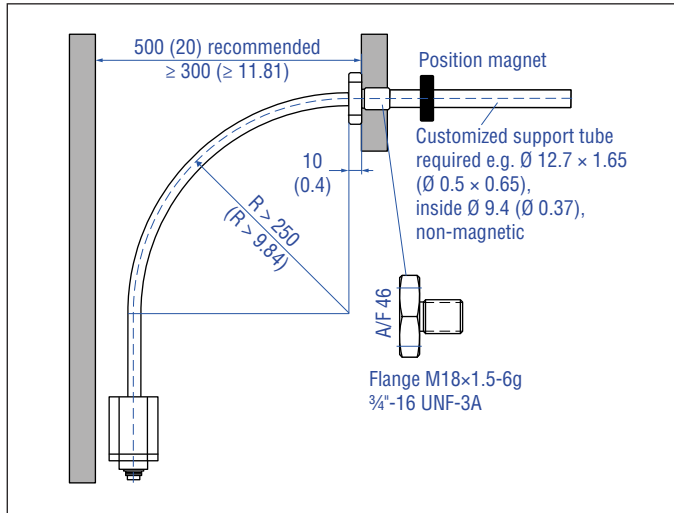

Fig. 19: Clearances for installation and handling
3. Note the minimum distance to a spatial limitation of 300 mm (11.81 in.), when mounting/dismounting the sensor. The recommended distance is 500 mm (20 in.) (Fig. 19).